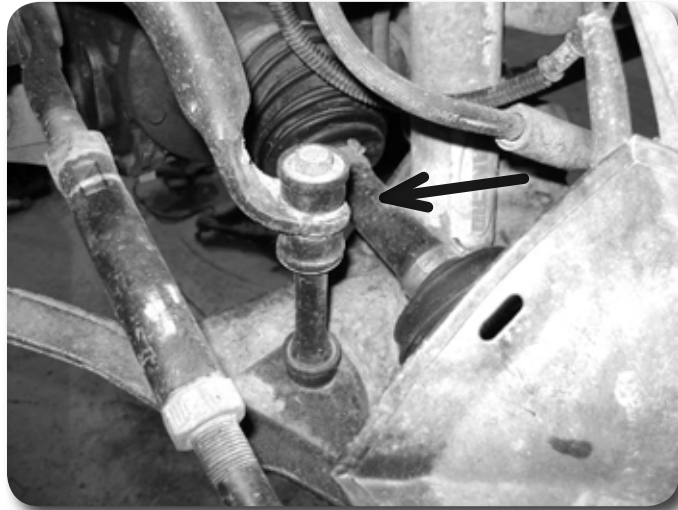

Figure 2
11. Remove the sway bar links from the sway bar and control arm. These will not be reused. **Figure 2**